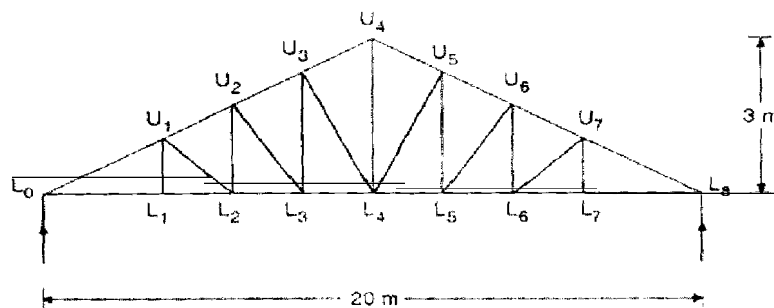

Fig. 10
- Q10)** A truss shown in Fig. 10 is used for an industrial building and spaced at 3m situated at Pune. The truss is covered with AC sheets calculate the panel point dead, live, and wind load. Design the members $L_0 L_1$, $U_1 L_1$ and $L_0 U_1$. Assuming $k_1 = 1$, $k_2=0.98$ and $k_3=1$ and $(C_{pe} - C_{pi}) = \pm 0.8$, $f_y = 250$ MPa. Draw the design sketches. [17]